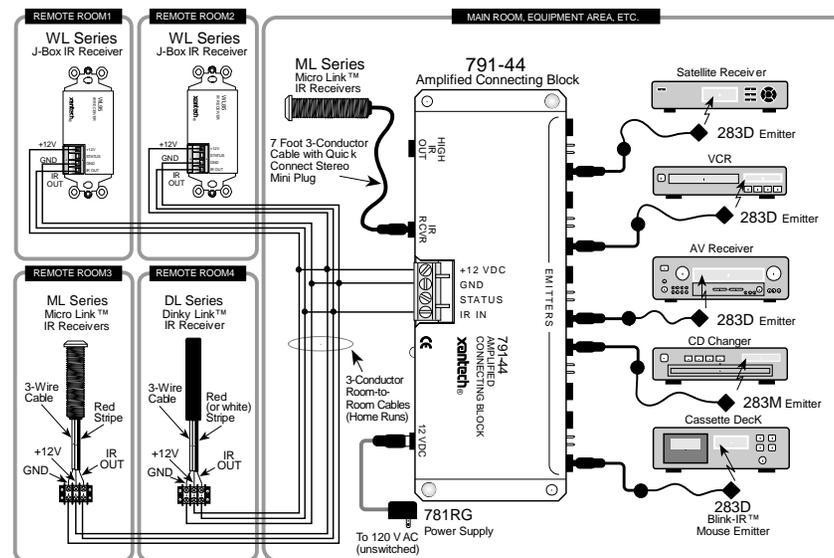

Figure 4 - Advanced Wiring Configuration using WL series, ML and DL series, 781ERGPS Power Supply and multiple 283D's
WL85 may also be used in conjunction with other Xantech IR Receivers by simply wiring in parallel on a Connecting Block such as the 791-44 Amplified Block as shown in Figure 4 below.
1. Connect all IR Receivers in parallel at the terminals of the connecting block as shown in **Figure 4** below.